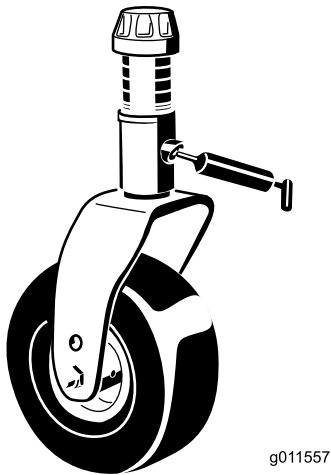

Figure 85
- 1 caster-fork-shaft bushing (Figure 85)